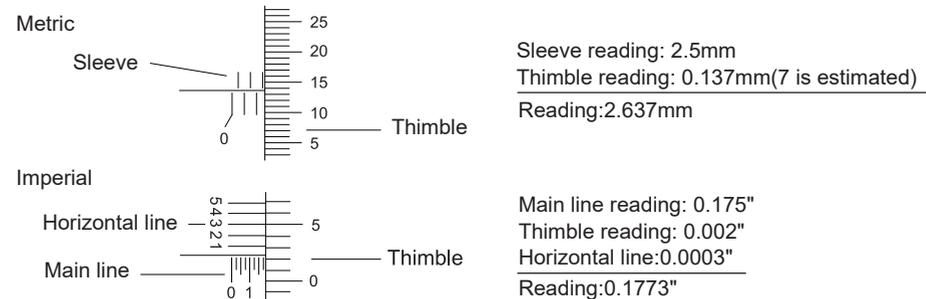

Fig.1
- Tighten the locking screw, use spanner to rotate sleeve (Fig.1), adjust the reading to be zero.